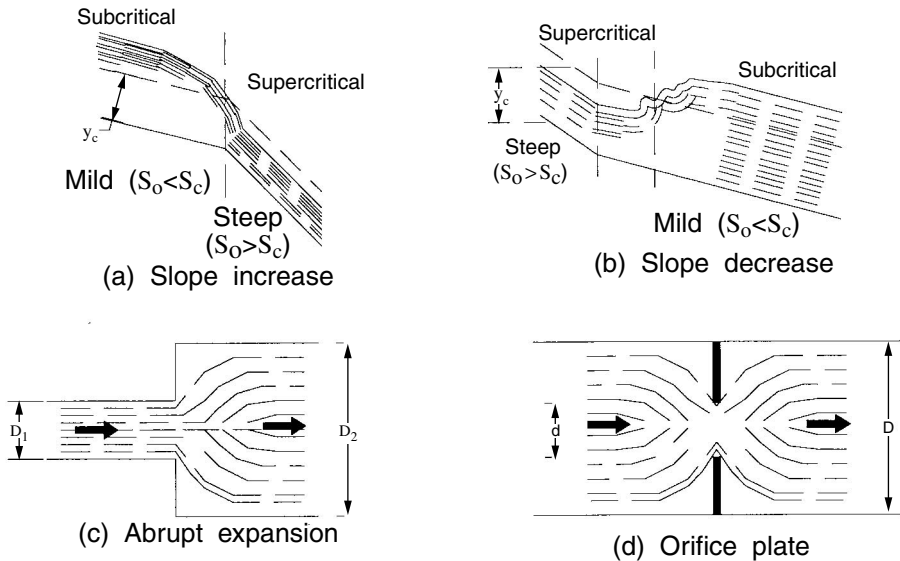

FIGURE F-3 Flow transitions.
**Flow transition** A change in direction, slope, or cross section that results in a change in the state of open-channel flow; e.g., when channel slope changes abruptly from mild to steep (or vice versa), the flow changes from subcritical to supercritical (or vice versa). *See* Figure F-3.